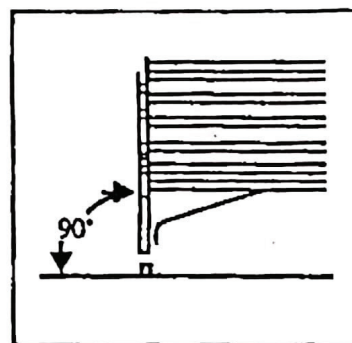

FIGURE 2
2. Check that the cast iron ends are at 90° to the floor, square to the slats. Tighten all bolts and nuts including those in Step 1. Refer to Fig. 2